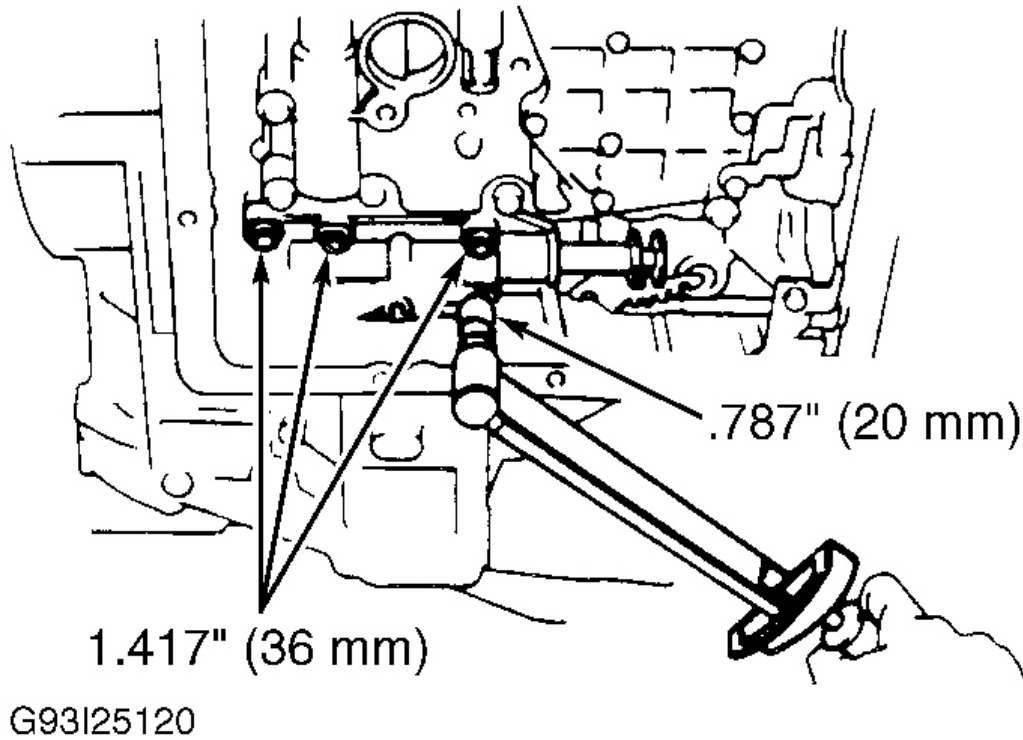

Fig. 5: Manual Valve Body Bolt Length & Location
2. Align manual valve with pin on manual shift lever. Place lower valve body into position. Initially install 4 bolts hand tight. Tighten bolts in crisscross pattern to 89 INCH lbs. (10 N.m). See **Fig. 5**.